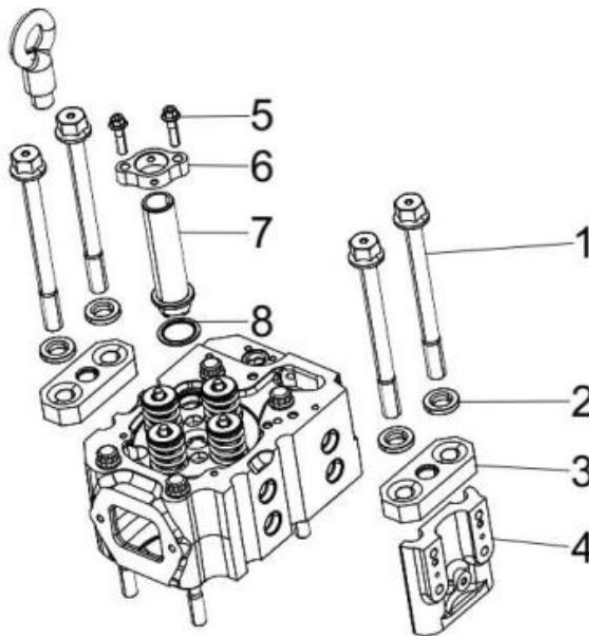

Figure 51. Cylinder head Assembly
2. Remove the cylinder secondary bolts (Figure 51, 1). Take the gasket (Figure 51, 2), clamping block (Figure 51, 3) and end plate (Figure 51, 4).